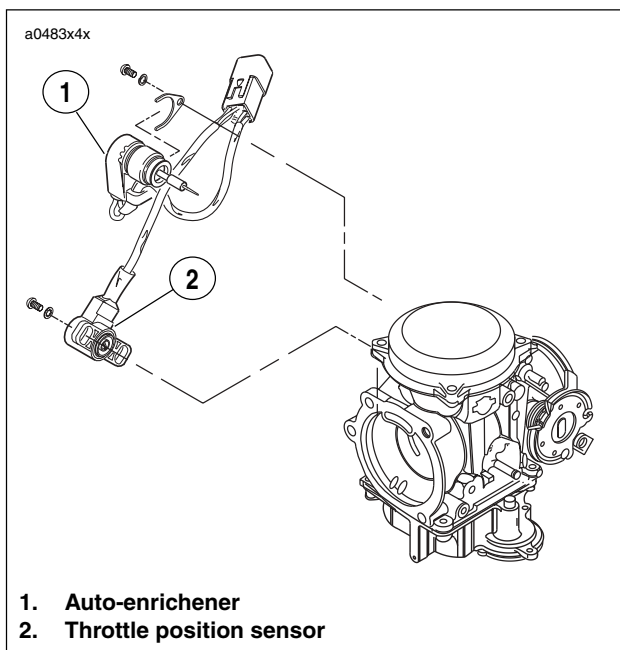

Figure 4-19. Location of Auto-Enrichener and Throttle Position Sensor
6. See Figure 4-19. Remove Phillips screw (with lockwasher) to release stay plate on auto-enrichener from carburetor housing. Pull enrichener from carburetor bore.